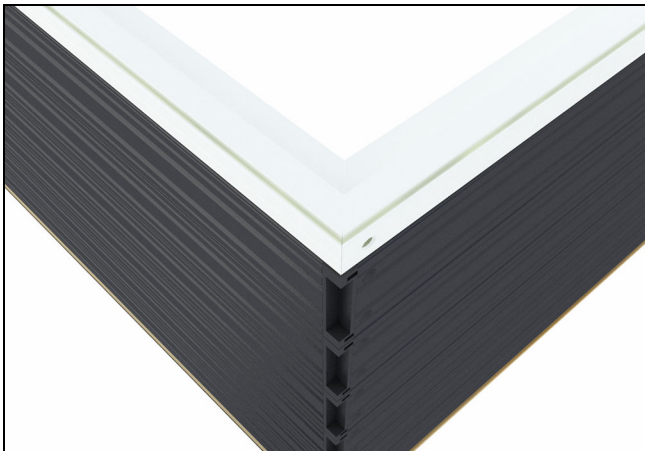

Figure 2
2. Align side jamb to head jamb, using the frame cladding corner key as a reference. Slide the frame members together until the miter is aligned. See Figure 2